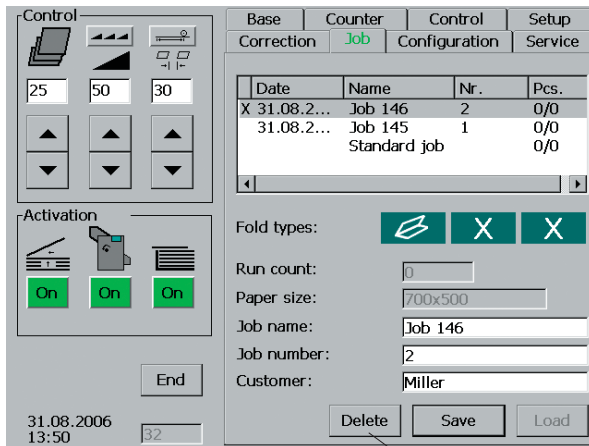

Fig. 71 Selecting a job
2. Touch the *Delete* key (Fig. 71/1).